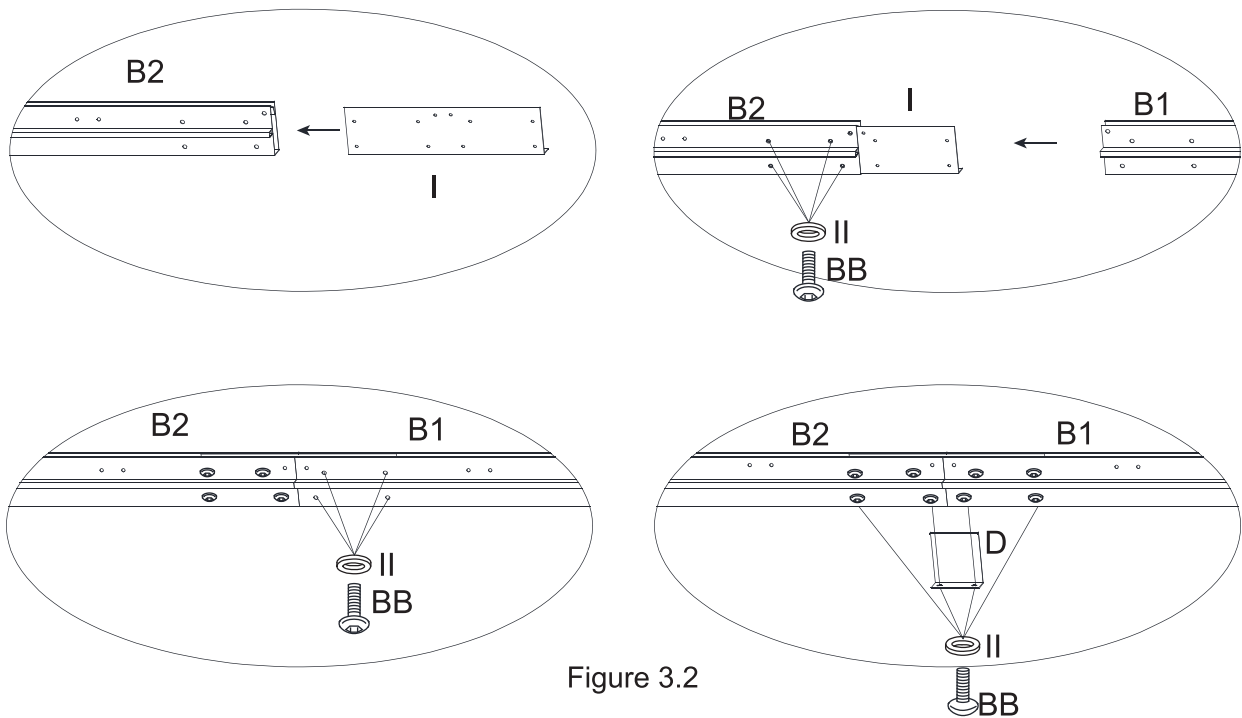

Figure 3.2
3.2. Connect the Long Left Lintel (B1) with the Long Right Lintel (B2) through the Lintel Connector - Large (I) by bolt (BB) and washer (II), then put the Lintel Cover - Center (D) onto the joint of the two lintels with bolt (BB) and washer (II), pay attention to install the screws based on the orders shown in the illustration. See Figure 3.2.